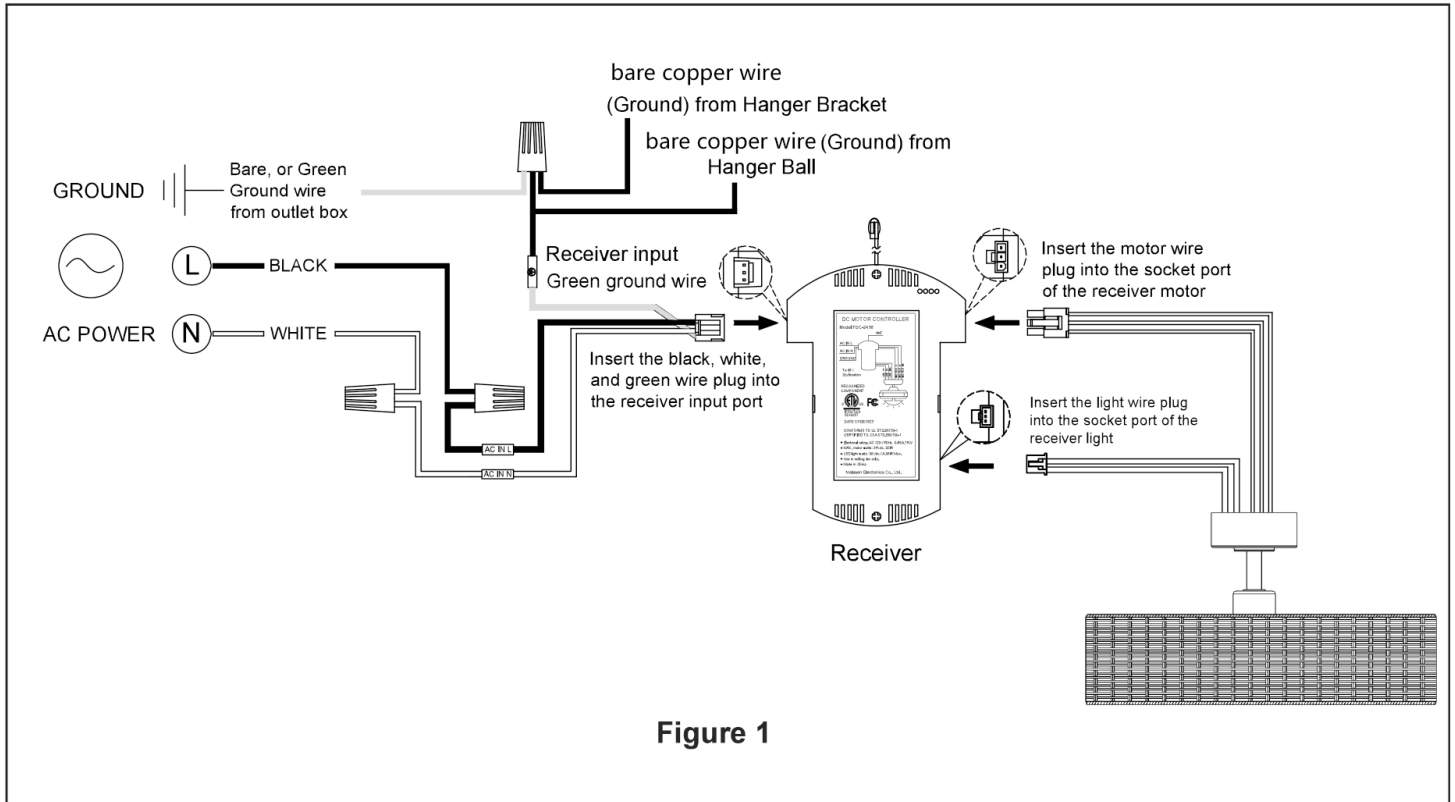

Figure 1
To avoid possible electrical shock, be sure Turn off the power at the main fuse box before wiring. (Figure 1)
- (Figure 1)
- After all connections have been made, carefully push the connected wires into the outlet box. Ensure that the white and green (ground) wires are positioned on one side of the box and the black (hot) wire is positioned on the opposite side, as shown in Figure 1